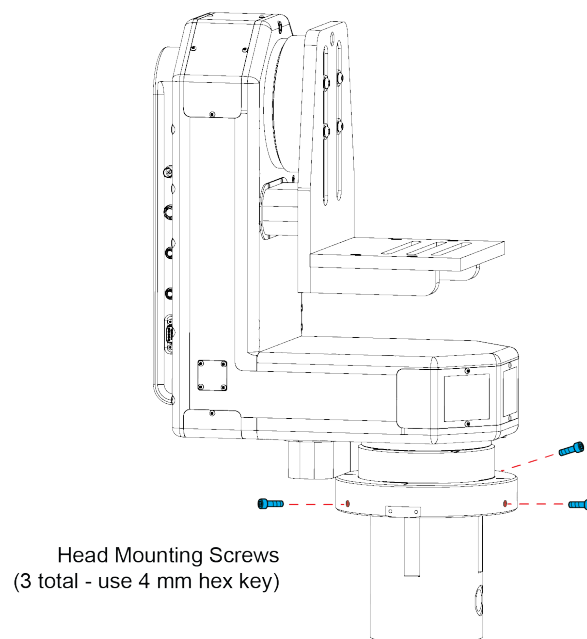

Figure 5 - Removing the VR600 Head from the Lift Column
3. Remove the payload, and then turn the pedestal **OFF (O)**.
- c. Use a 4 mm hex key to remove the three screws in the mounting coupler that fastens the head to the lift column (**Figure 5**).